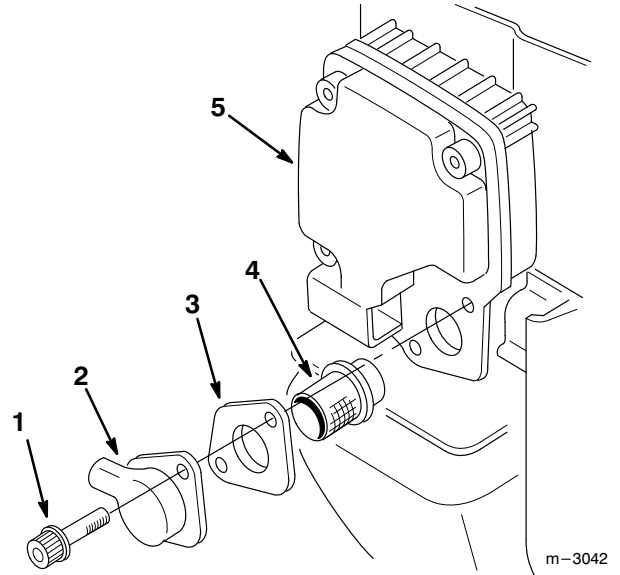

Figure 35
5. Reinstall the spark arrester, gasket and tail onto the muffler, then reinstall and tighten the two socket head screws (Fig. 35).
3. Remove the two socket head screws holding the spark arrester assembly to the muffler (Fig. 35).